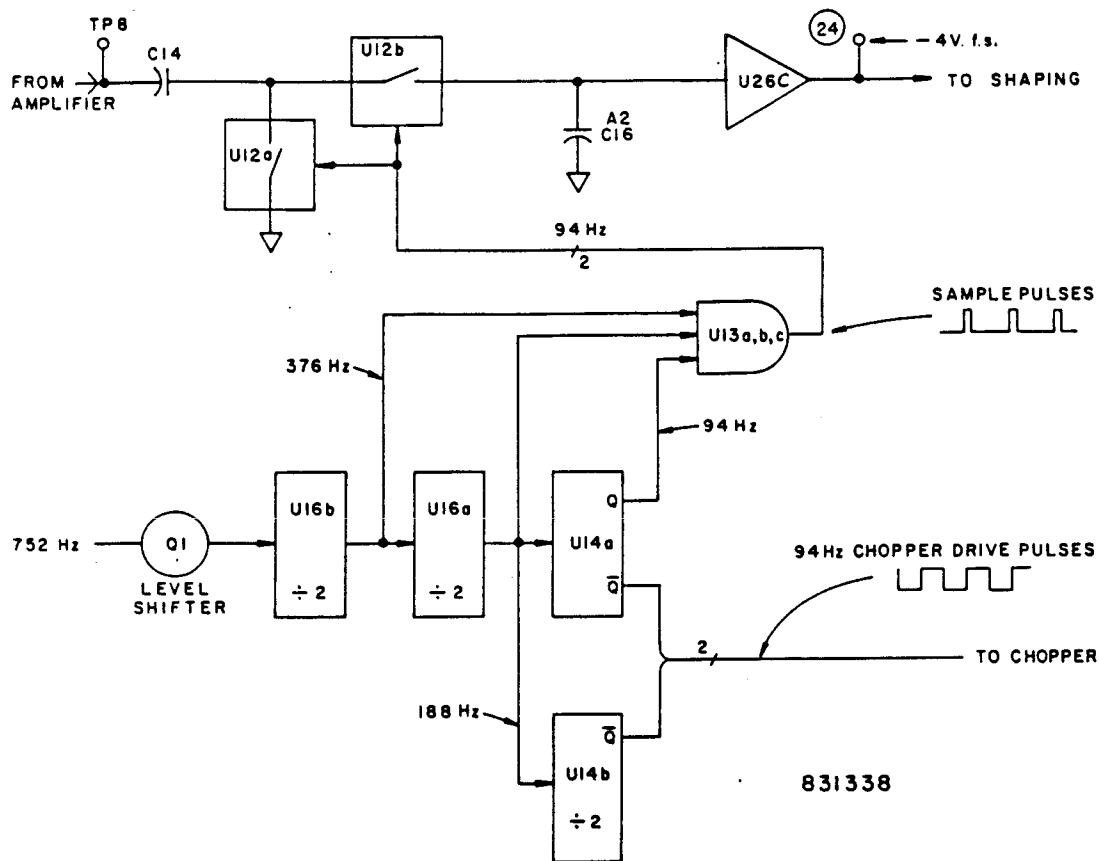

Figure 4-3. Demodulator and Driver Circuits Block Diagram.
4-16. **DEMODULATOR CIRCUITS.** Refer to Figure 4-3. A solid state demodulator, consisting of switches A2U12a and A2U12b, converts the amplified and scaled 94 Hz square wave signal back to DC. The demodulator is driven by a 94 Hz demodulator drive signal, which is synchronized with the 94 Hz chopper drive signal. A synchronous, sampling type demodu-
**4-17. DRIVER CIRCUITS.** Chopper and demodulator drive signals are derived from a 752 Hz signal supplied from the clock circuit. A2Q1 shifts the clock voltage from the zero to plus five volt level (used by the shaping circuitry), to a plus five and minus five volt level used by the chopper circuitry. Flip-flops A2U14a, A2U14b, A2U16a and A2U16b divide down the 752 Hz signal to 94 Hz, and gates A2U13a, A2U13b and A2U13c shape the 94 Hz demodulator signal. Figure 4-3 shows the derivation of the chopper and demodulator drive signals from the 752 Hz clock signal.